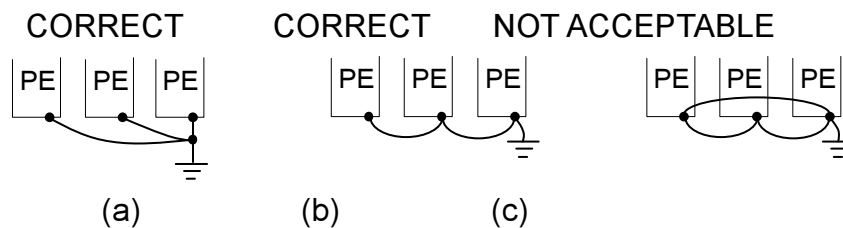

Fig. 3 Grounding of Three 7200GS/GS510 Units
- (1) Ground resistance should be 100 ohms or less.
- (2) Never ground 7200GS/GS510 in common with welding machines, motors, and other large-current electrical equipment, or ground pole. Run the ground lead in separate conduit from leads for large-current electrical equipment.
- (3) Use the ground leads which comply with AWG standards and make the sure the length is as short as possible.
- (4) Where several 7200GS/GS510 units are used side by side, it is preferable to ground each unit separately to ground poles. However, connecting all the ground terminals of 7200GS/GS510 in parallel while grounding only one of the 7200GS/GS510's to the ground pole is also permissible (Fig. 3). Be sure not to form a loop with the ground leads.